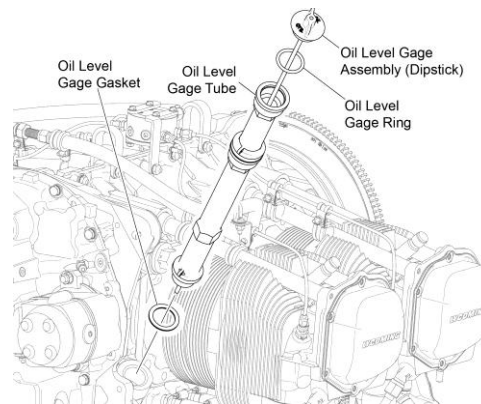

Figure 1
1. Pull out the oil level gage assembly (dipstick) (Figure 1) from the oil level gage tube.